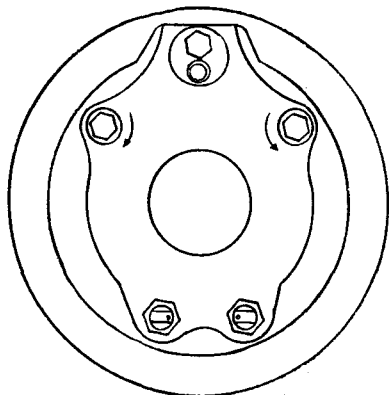

FIG. 119
7. Rotate anchor pins and cams to positions shown in Fig. 119. Tighten anchor pin nuts lightly. Do not torque until brake adjustment is done following complete reassembly of axle.